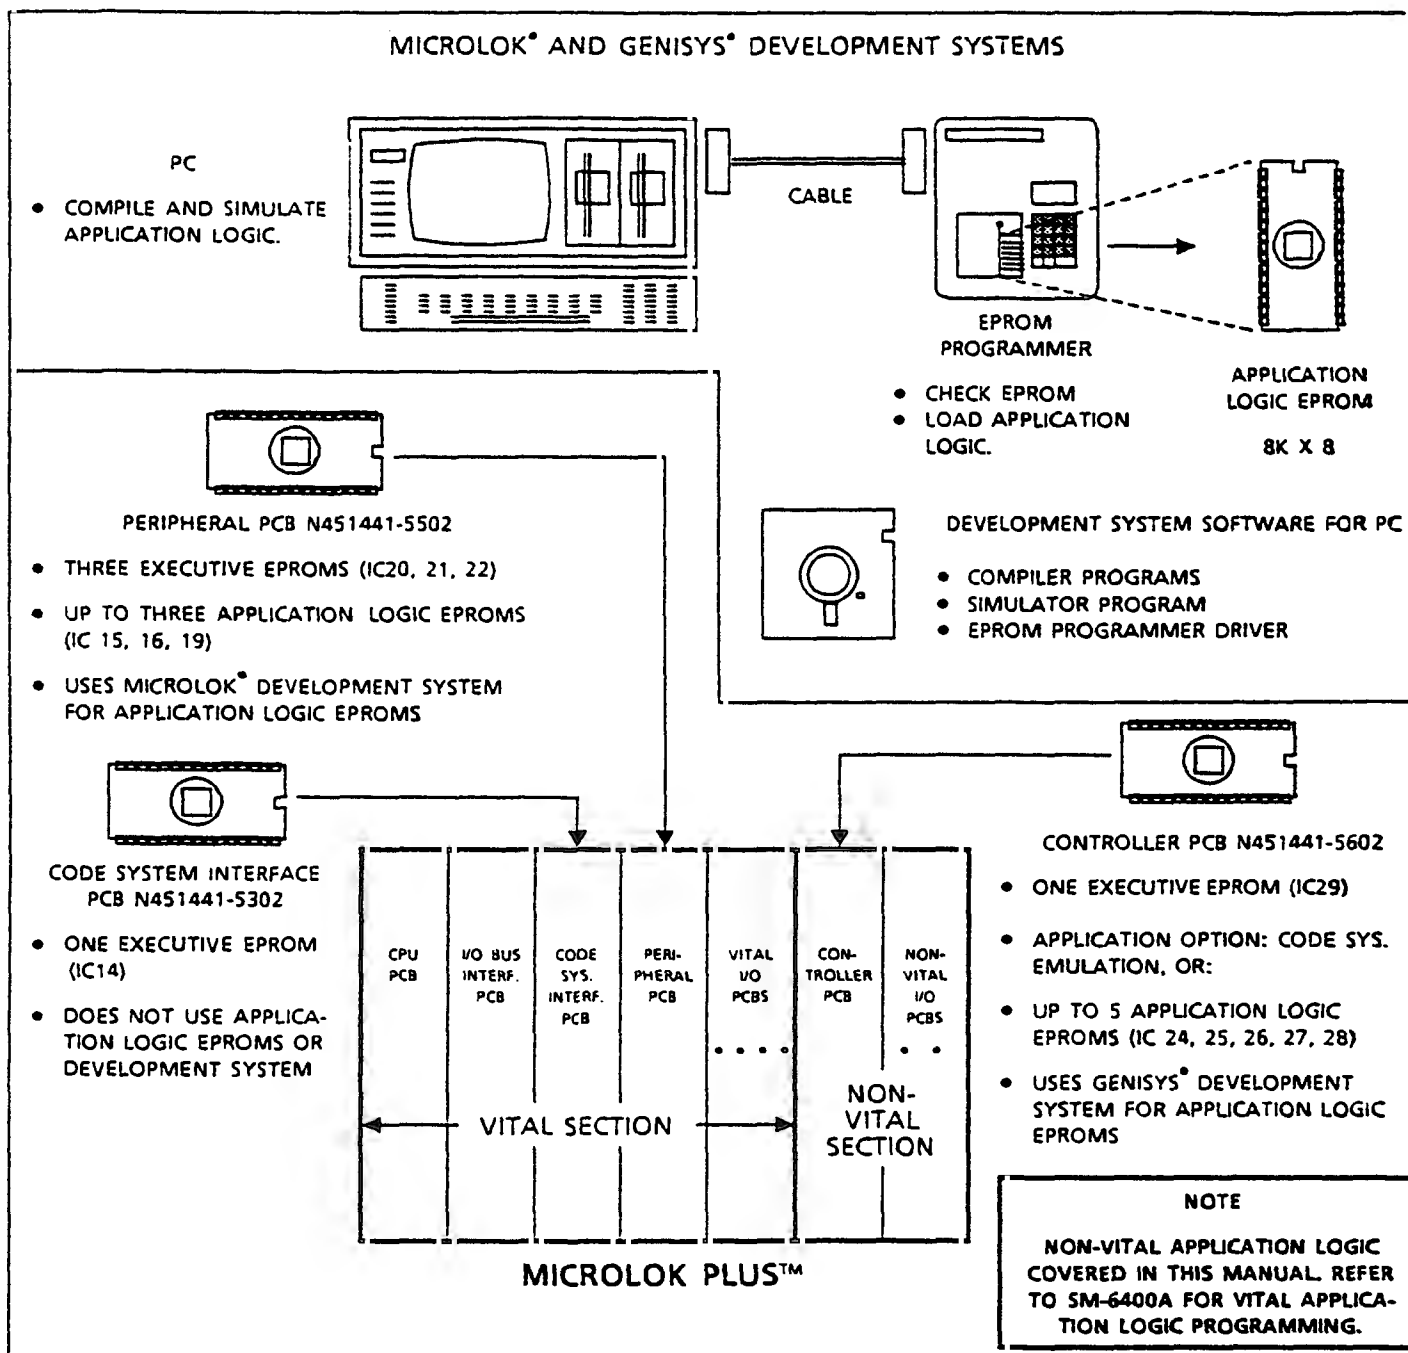

Figure 3-2. MICROLOK PLUS Application and Executive Software
3.1.3 Application and Executive Software (See Figure 3-2)